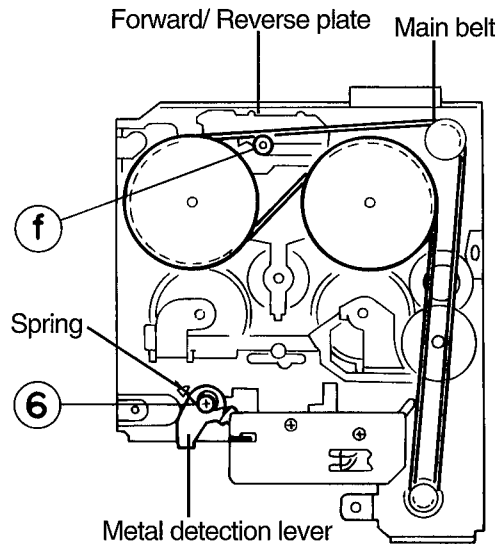

Fig. 8
■ **Removing the Head Plate ( See Fig. 8,9 )**
7. Remove the two screws (6) fixing the metal detection lever and removal spring as shown in Fig. 8.